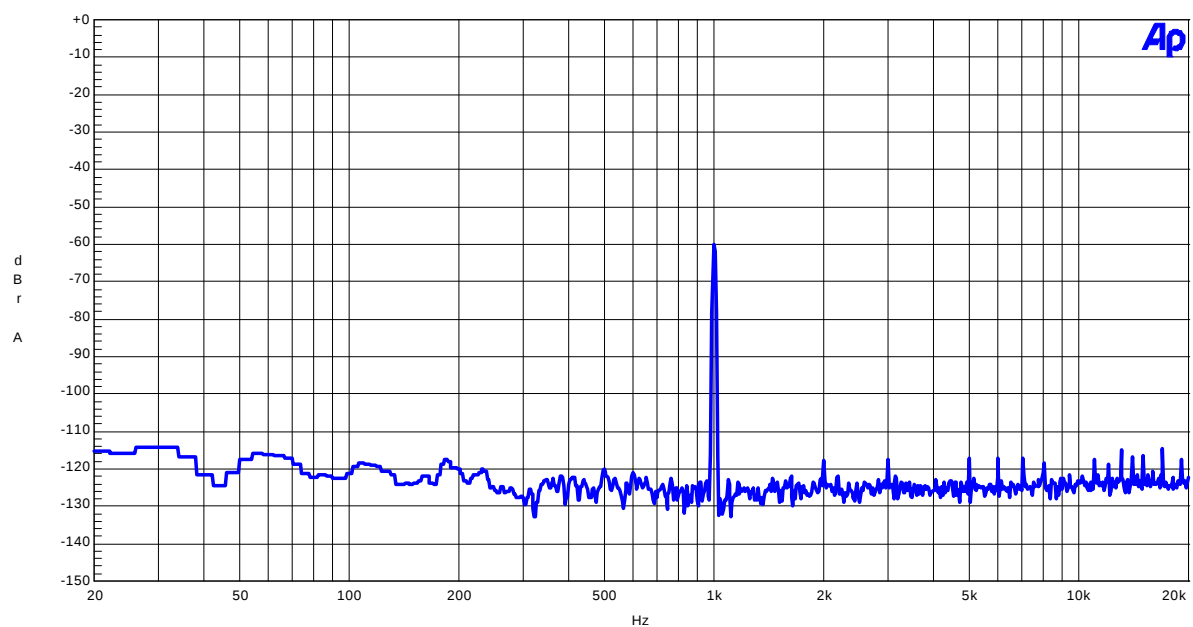

Figure1-2. FFT (fin=1kHz Input Level=-60dBFS)
- Figure 1-2. FFT (1kHz, -60dBFS input)